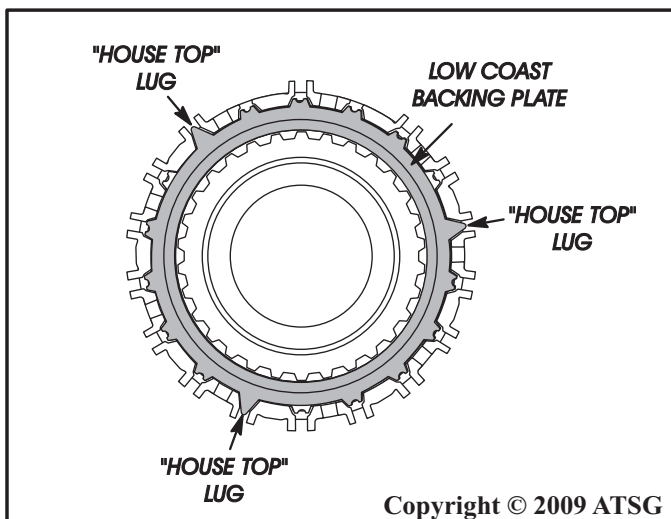

Figure 188
- Note:** *The low coast backing plate must be installed with the "house top" lugs located in the "house top" grooves of the forward clutch piston, as shown in Figure 188.*